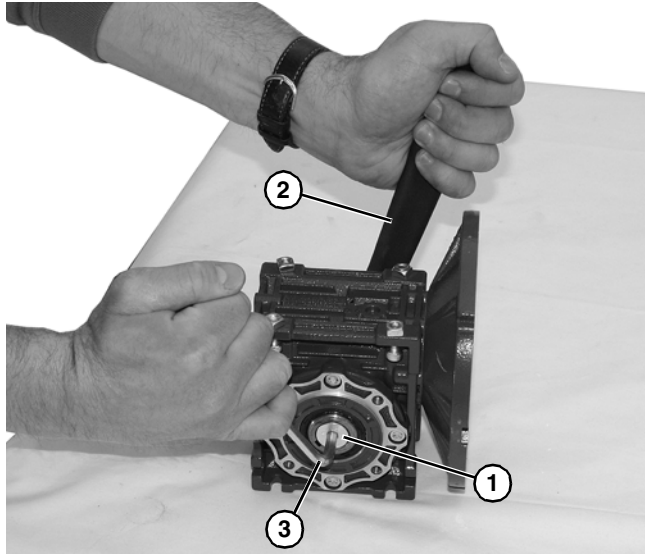

Figure 31
1. Loosen driveshaft bolt (**Figure 31, item 1**).
2. Hold the driveshaft with a wrench (**Figure 31, item 2**) as shown to keep shaft from turning, while removing screw with hex wrench (**Figure 31, item 3**).
7. Hold the driveshaft with a wrench (**Figure 31, item 2**) as shown to keep shaft from turning, while installing screw with hex wrench (**Figure 31, item 3**). Tighten screw to 100 in-lb (11.5 Nm) for 42CZ or 350 in-lb (39.5 Nm) for 56C, 63B5 and 71B5.